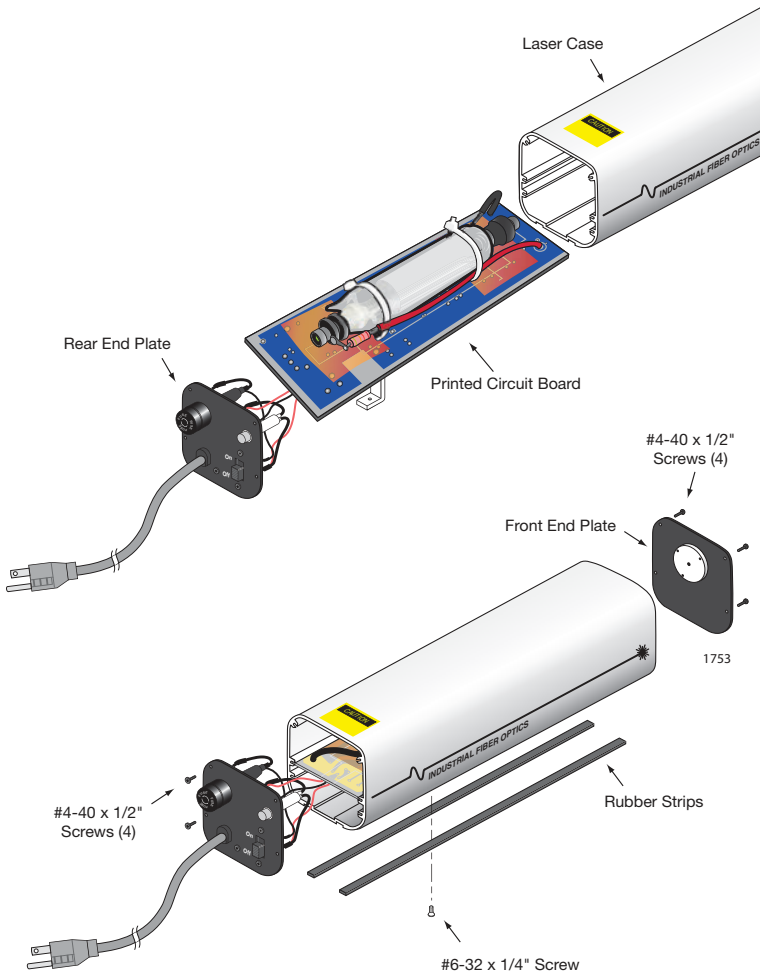

Figure 5. Inserting laser in case.
1. With power disconnected, slide the printed circuit board into the laser case as shown in Figure 5, until the threaded hole in the heat sink is aligned with the hole in the bottom of the case.